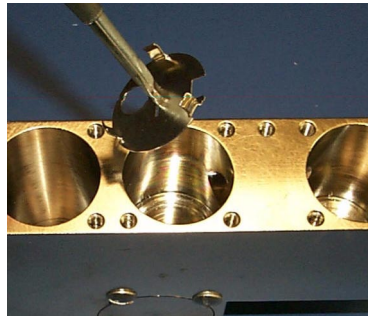

Figure 5-14 Ground Slit Plate
18. Remove the ground slit plate (Figure 5-14) by placing a thin, straight screwdriver snug into the slot and carefully twisting and prying with the screwdriver.
8. Remove the ground slit plate (Figure 5-14 on page 5-12) by placing a thin, straight screwdriver snug into the slot and carefully twisting and prying with the screwdriver.